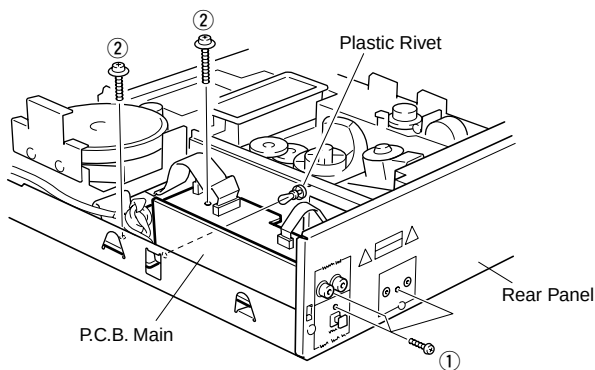

Fig. 1
- c. Remove 3 screws (①) on the Panel as shown in Fig. 1.